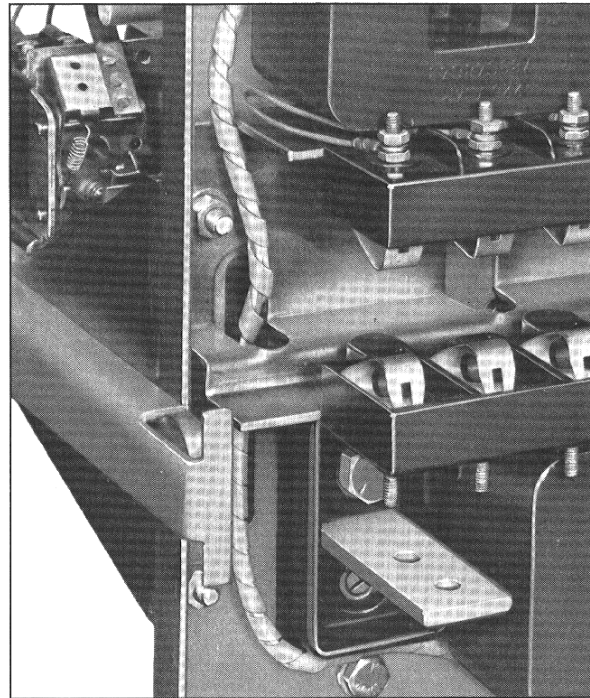

Fig. 14 Harness Threaded Through Upper Slot DB-15
6. Thread the sensor end of the harness through the lower slot in the right side of the breaker frame, viewing breaker from front, Fig. 14.